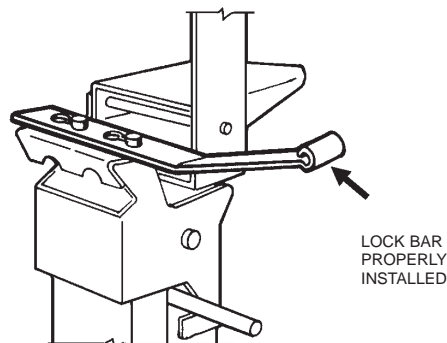

FIGURE 9
2. Insert the lock bar (Part No. 14985) on the cocked regulated release mechanism. See Figure 9.